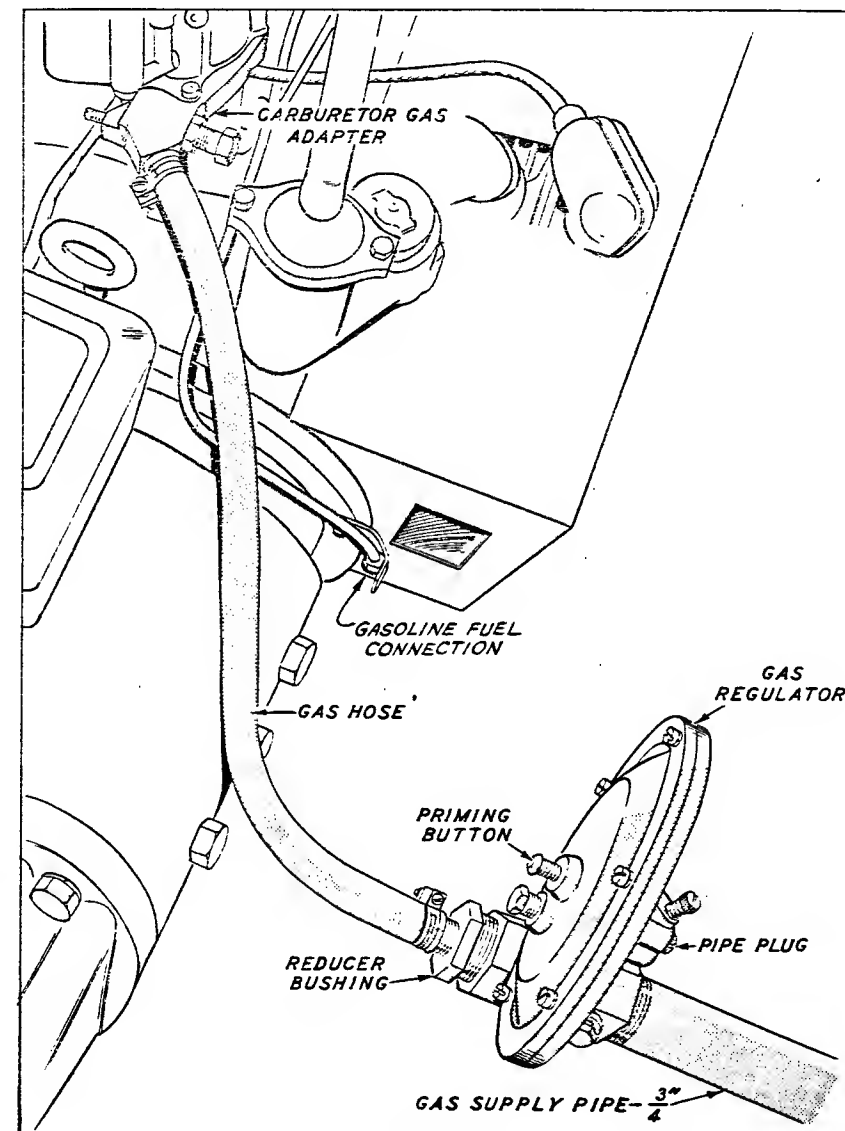

Fig. 12 Fuel Connection
**FUEL CONNECTION.** - The standard plant is supplied with a separate 5 gallon (U.S. measure) gasoline can. After installing the fuel shut off valve in the fuel tank outlet, connect the flexible line. Connect the non-swivel end first, to the plant fuel inlet connection at the left side of the generator (Fig. 12). Connect the swivel end of the line to the fuel tank shut off valve. Do not reverse these line connections, as the threads on opposite ends of the line are different. Use care to start the threads straight and tighten only enough to prevent leakage.
To start the plant the first time, it may be necessary to press the regulator priming button (Fig. 12). The plant was test run on 1000 BTU gas, and some adjustment of the carburetor may be necessary if a different BTU content gas is used. Refer to ADJUSTMENTS.